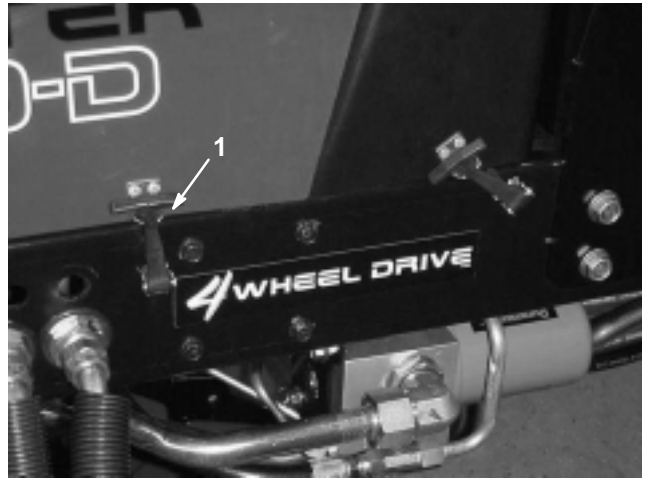

Figure 25
1. Release hood latches (Fig. 25) and raise hood.